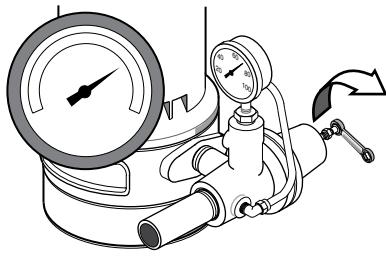
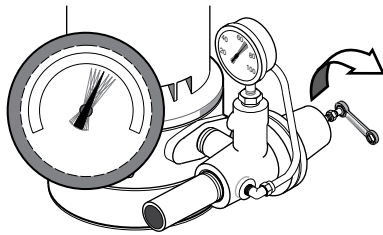
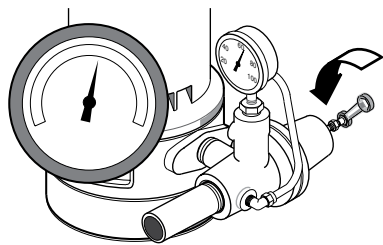

Figure 15A: Open Regulator Valve
Figure 15B: Watch for Pressure Gauge to Flutter
Figure 15C: Close Regulator Valve until Pressure Stabilizes
- Step 4. Once unit has primed and pressure stabilized, slowly open regulator valve (turn counterclockwise - Figure 15A) until pressure falters (pressure gauge needle flutters; pump may become noisy - see Figure 15B). At this point, close regulator valve slightly (turn clockwise) until pressure stabilizes. This setting provides maximum flow (Figure 15C).